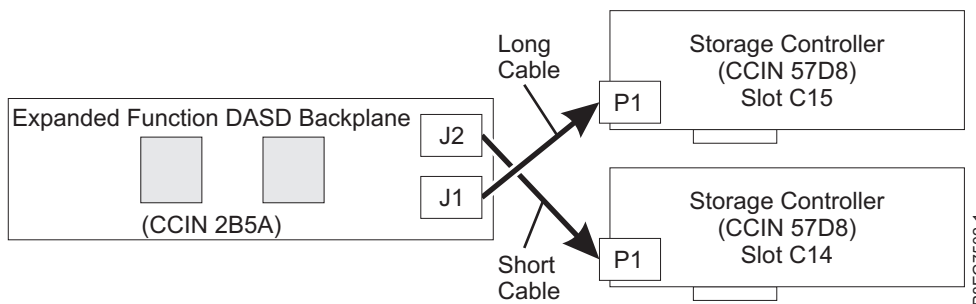

Figure 22. Reconnecting the SAS cable in an expanded-function configuration
- The long SAS cable connects the lower disk drive backplane connector (J1) to the P1 connector on the SAS RAID internal adapter in slot P1-C15. See Figure 22.